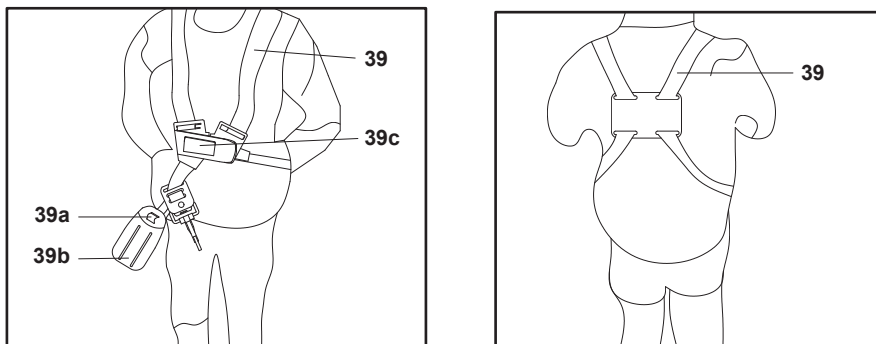

Fig. 24
1. Adjust the position of the hanging hook (9) if necessary. Make sure it is well fixed on the upper pole of motor unit before operation.
2. Place the harness (39) so that
- the belts must be tensioned in a way that the load is distributed evenly on the shoulders (Fig. 24).